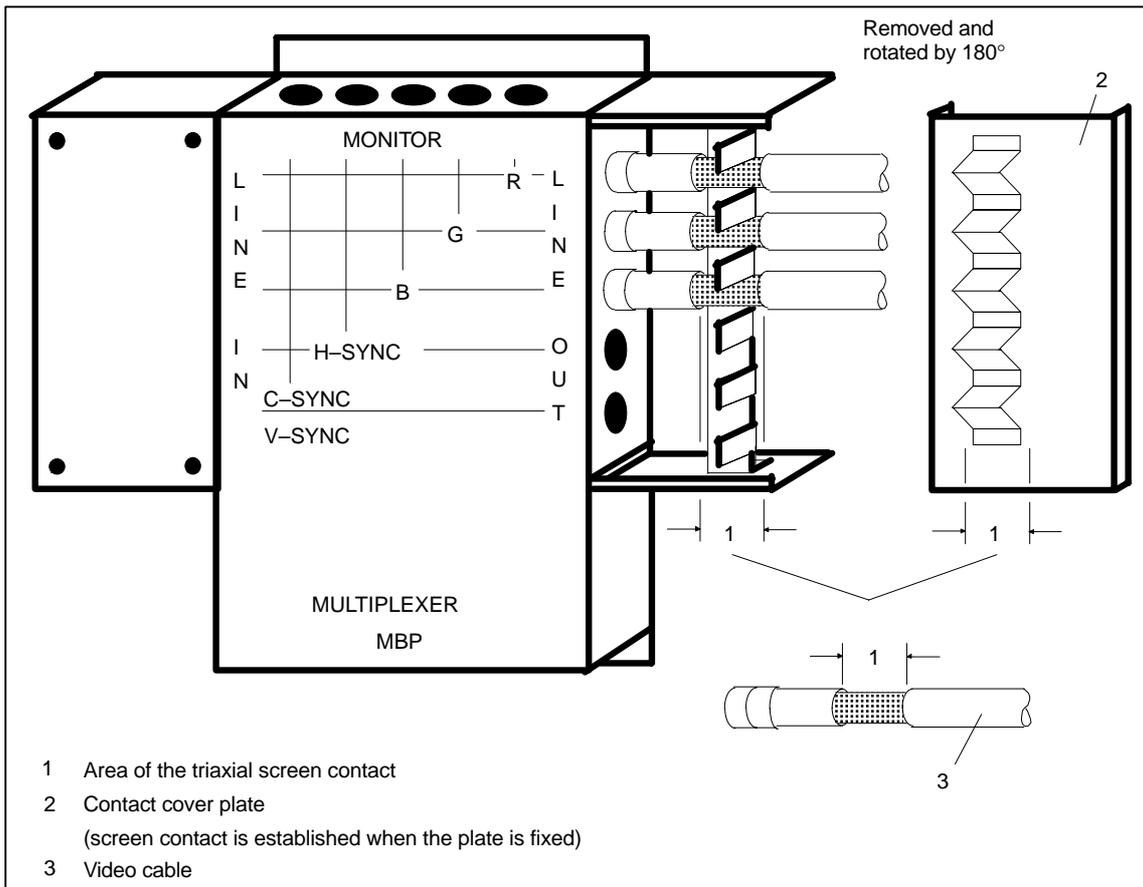

Fig. 2.7 Connecting the video cable to the multiplex box
- An area of the outer screen of the video lines must be connected to the grounding bar of the process monitor. Fig. 2.7 shows how contact is made between the outer screen and the monitor box.